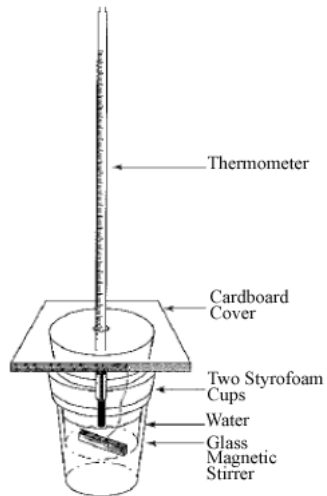

Figure 1: The Calorimeter
- Use two concentric Styrofoam cups with a temperature probe and a magnetic stirrer inserted into the cup through a cardboard or plastic lid. (See Figure 1)